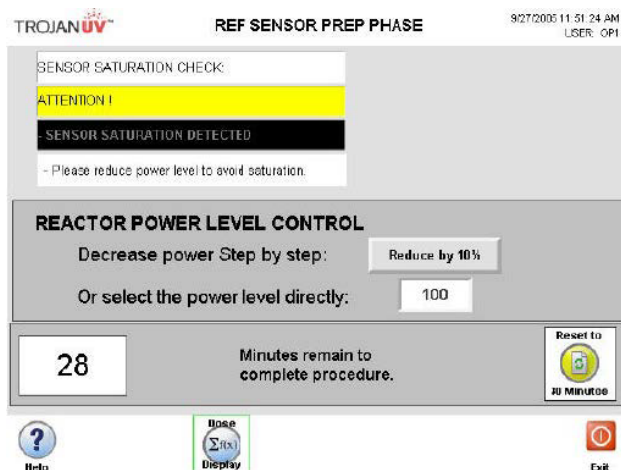

Figure 8 Reference Sensor Preparation Phase Screen
12. If sensor saturation is detected, the following prompt will be displayed. Press the “Reduce Power” button. Allow time between power level adjustments. Repeat until the condition is cleared. The following screen can be toggled between the “UV Dose” display (refer Figure 8) and the “Reactor Power Level Control” by pressing “Dose Display” on the bottom center of the following screen. At the following prompt press “Next”.